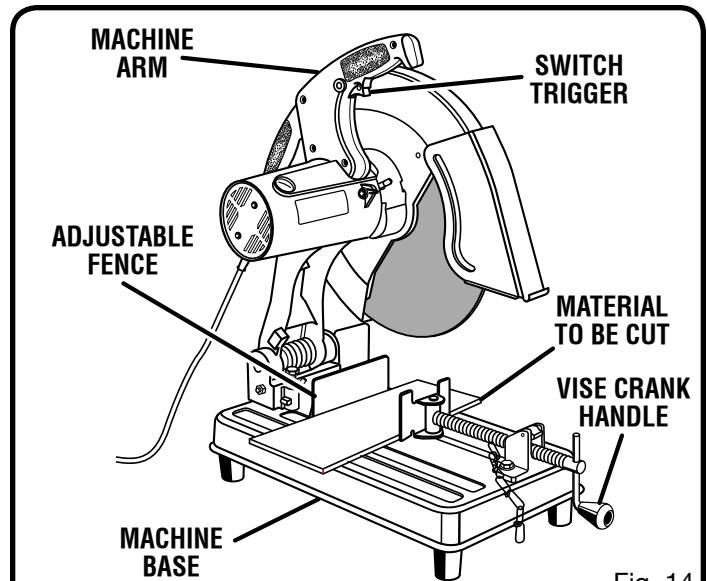

Fig. 14
See Figures 14 - 15.
- Using the hex wrench supplied, loosen the hex head bolts securing the fence. See Figures 14 and 15.